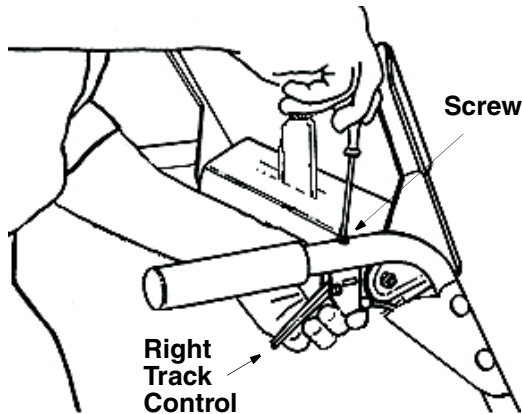

Figure 12
2. Place the right track control in position underneath the right handle. Secure with screw just removed. See Figure 12.
5. Secure the track control cables to the inside of the lower handle using the cable ties provided. Pull the cable ties tight, and trim the excess ends of the cable ties. See Figure 12